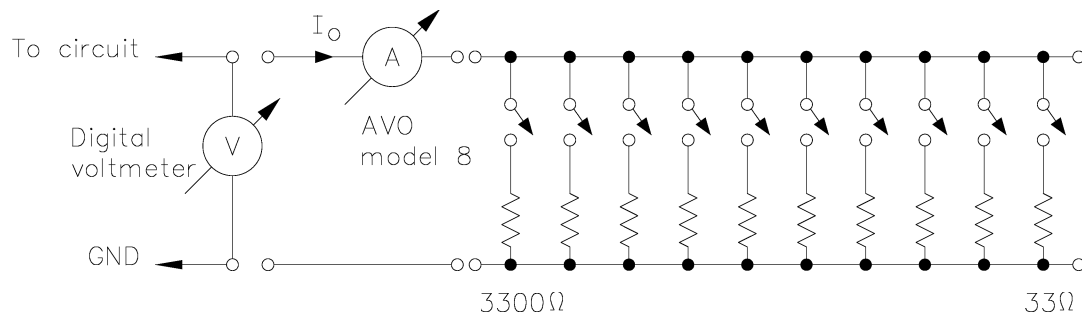
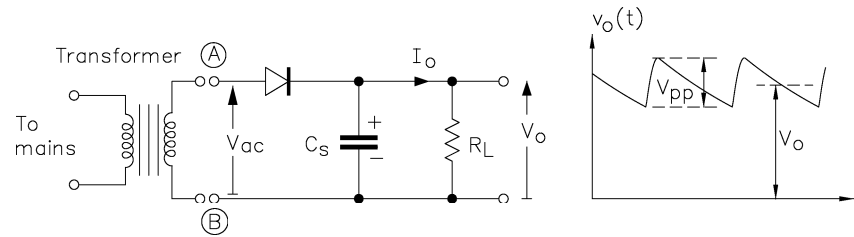

Figure 2: Schematic of resistive load
Figure 3: Circuit for the half-wave rectifier.
To determine the *regulation characteristics* of a power supply, we need to vary the load current. An additional board is supplied having a number of fixed resistors ranging in value from 3300Ω to 33Ω which can be switched across the supply output, either singly or in various combinations. An ammeter and a voltmeter are connected to the resistor board as shown in Figure 2 and the *entire combination* constitutes the resistive load R_L used in all the following experiments.
This is the simplest circuit, and is illustrated in Figure 3. Note that it requires only one diode. We will investigate the regulation characteristics of this circuit for values of smoothing capacitor $C_s = 0\mu\text{F}$, $100\mu\text{F}$ and $1000\mu\text{F}$. Initially, we will set $C_s = 0\mu\text{F}$. The load R_L is supplied by the circuit of Figure 2.
- (2) Construct the circuit of Figure 3 with $R_L = 1 \text{ k}\Omega$ but leave the capacitor C_s *disconnected*. On the same, labelled axes, sketch the form of both $v_{ac}(t)$ and $v_o(t)$ in the top, leftmost box of the table. Record the mean *dc* output voltage V_o from the digital voltmeter and the mean *dc* output current I_o from the AVO 8.
- (3) Repeat procedure (2) with the load resistor R_L set at 220Ω . Sketch in the next box in the table.
- (4) Repeat procedures (2) and (3) for both values of smoothing capacitance provided C_s ($100\ \mu\text{F}$ and $1000\ \mu\text{F}$). Don't forget to record V_o and I_o as well.
Question 9: In Figure 2, why is the DVM connected across the series combination of ammeter and load resistor? Why was it not connected just across the load resistors?